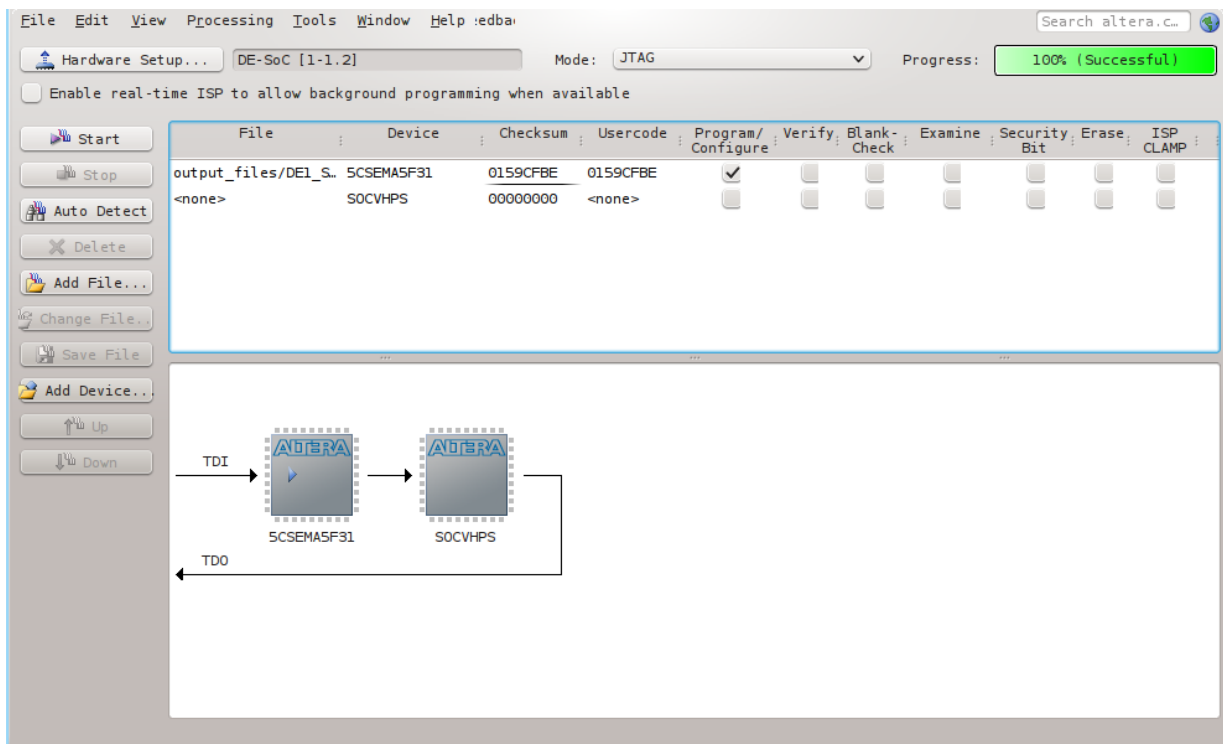

Figure 9-23. Programming the FPGA
47. Enable the “Program/Configure” checkbox for device “5CSEMA5F31”, then press the “Start” button, as shown in Figure 9-23.